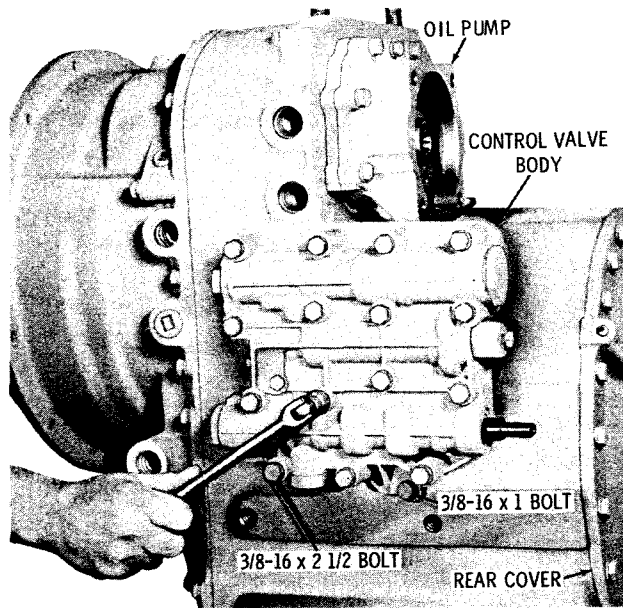

Fig. 5-5. Removing valve body bolts
(1) Remove 16 bolts and lockwashers that attach the control valve body to the transmission housing (fig. 5-5).